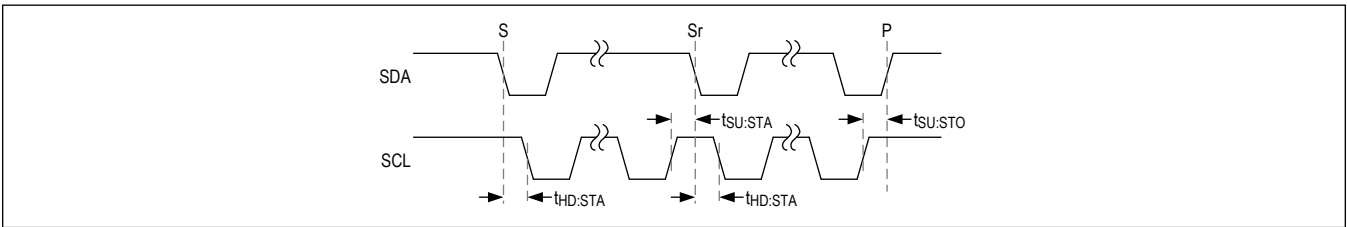

Figure 5. START, STOP, and REPEATED START Conditions
A controller device initiates communication by issuing a START condition. A START condition is a high-to-low transition on SDA with SCL high. A STOP condition is a low-to-high transition on SDA while SCL is high (see Figure 5). A START (S) condition from the controller signals the beginning of a transmission to the MAX16984A . The controller terminates transmission, and frees the bus, by issuing a STOP (P) condition. The bus remains active if a REPEATED START (Sr) condition is generated instead of a STOP condition.